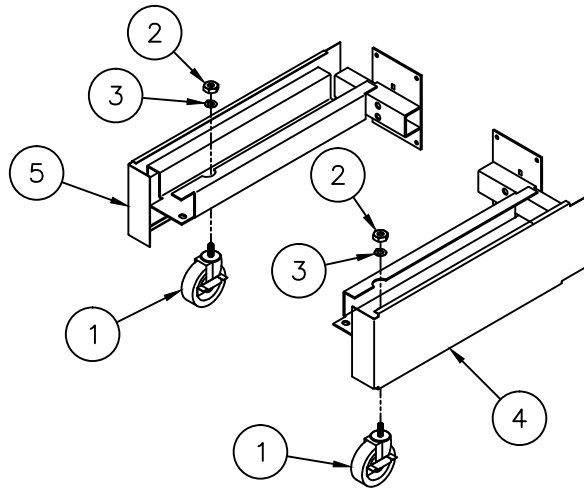

FIGURE 2
STEP 2. Attach item 1 to each of items 4 & 5 by inserting threaded stem of item 1 through large holes in items 4 & 5. Secure item 1 with items 2 & 3. (See Figure 2)